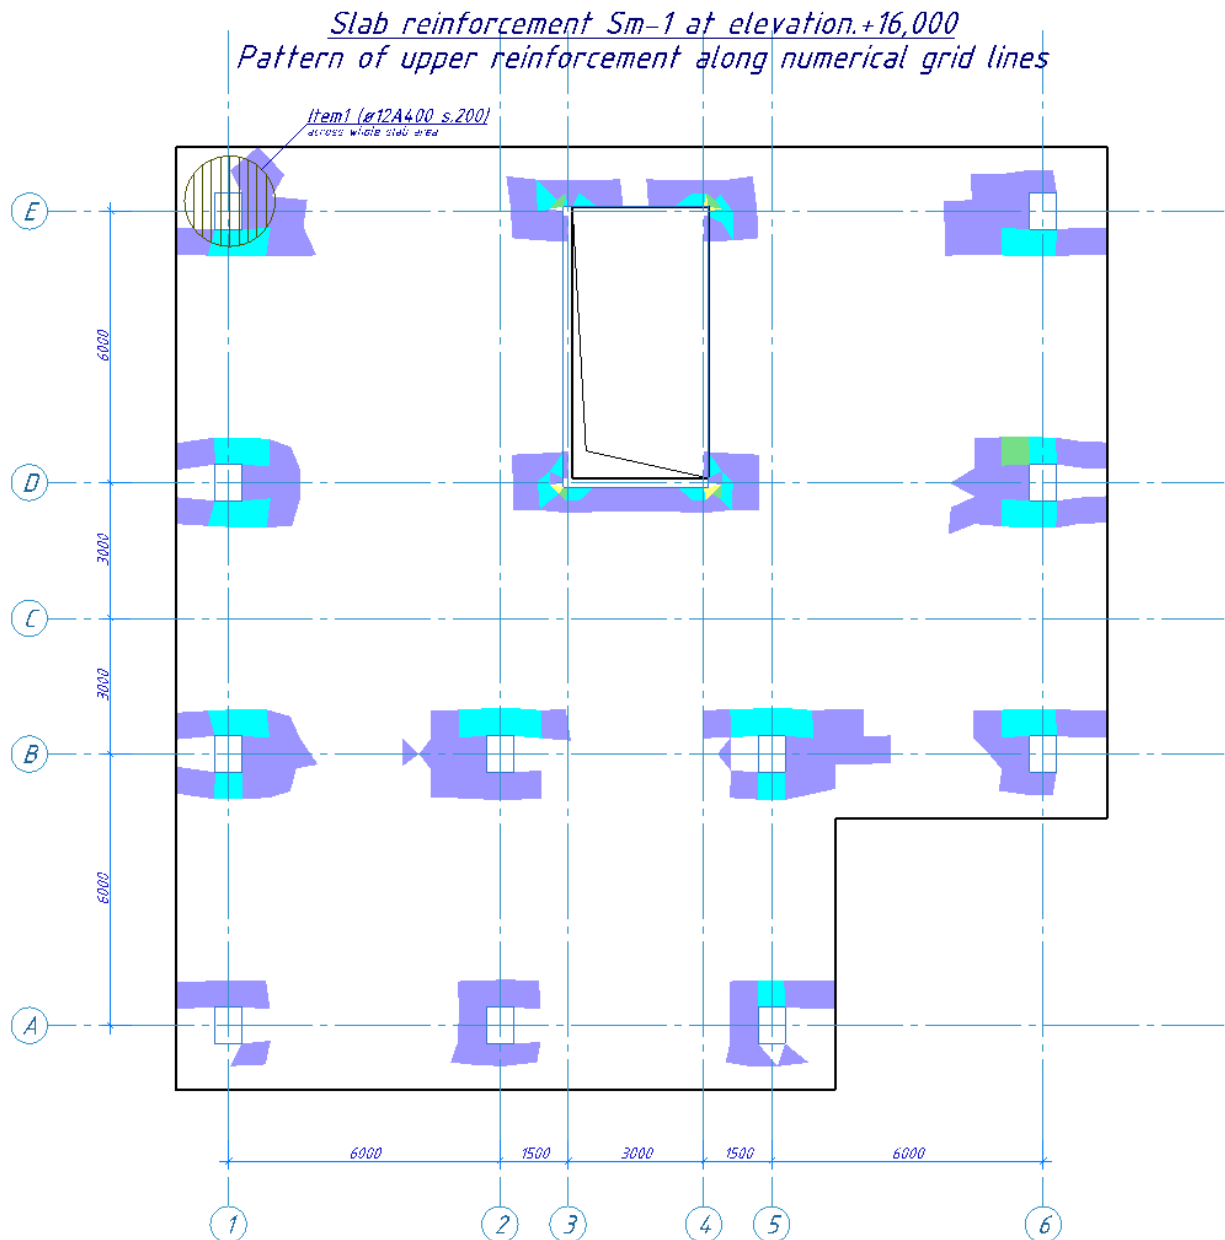

Figure 23.48. Mosaic plot for areas of reinforcement at the upper edge of slab along the Y-axis.
- ⇒ Formwork drawing of the floor slab with analysis results for reinforcement as mosaic plot will look like (see Fig. 23.48):